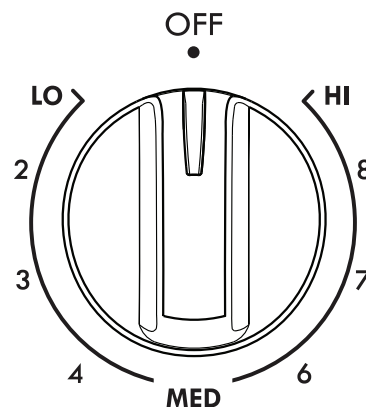

Figure 4: Surface control knob
2. Push in and turn the surface control knob in either direction to the desired setting (See Figure 4).
- The surface control knobs do not have to be set exactly on a particular spot (See Figure 4). Use the graphics provided as a guide and adjust the control knob as needed. Refer to Table 1 for suggested power level settings.